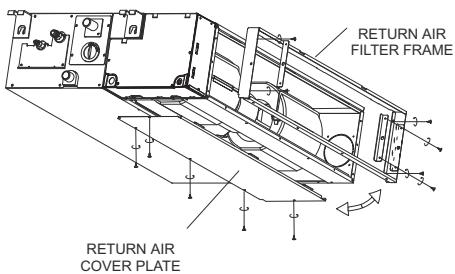

Fig. 15 — Removing Air Filter Frame and Cover Plate
2. Remove the screws that secure the return air cover plate to the bottom of the unit and set the cover plate aside. See Fig. 15 below.